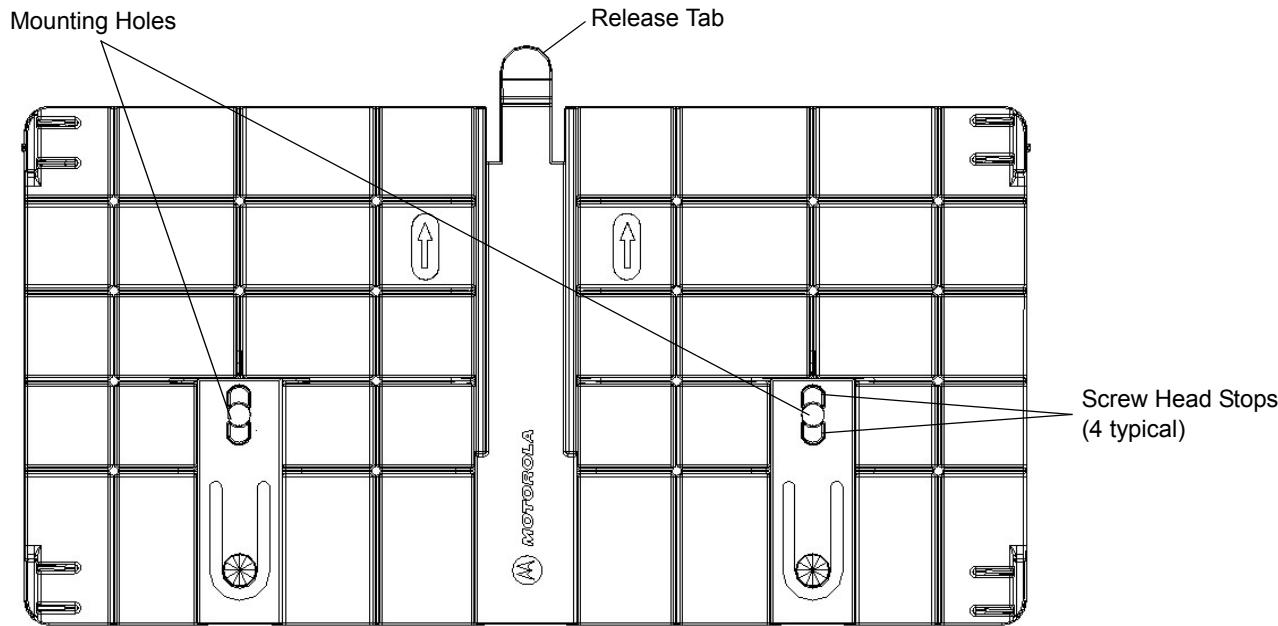

Figure 3-1 Mounting Plate, Front
1. Position the mounting plate on a flat surface (wall or shelf). Position the release tab on the top. See Figure 3-1.
2. Mark the hole locations using the mounting plate as a guide. See Figure 3-1. Remove the mounting plate and drill holes (appropriate for the surface material) at the marked locations.
CAUTION Use a hand screw driver to install the mounting plate (do not use a power driver). Do not use excessive torque, and tighten the screws so that they are just snug on the screw head stops (see Figure 3-1). If the reader does not engage the mounting plate, loosen the screw(s) 1/8 to 1/4 turn and try again.
- Position the reader by aligning the markers on the metal base plate and the wall bracket, with the key-slot holes over the mounting screws. Gently slide the reader down (see Figure 3-1) to lock into place.